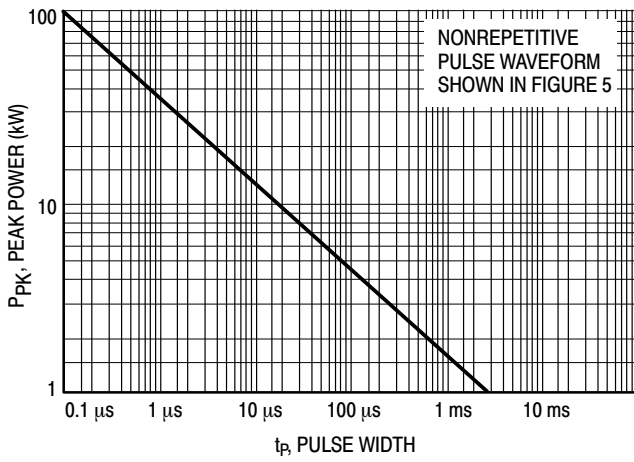
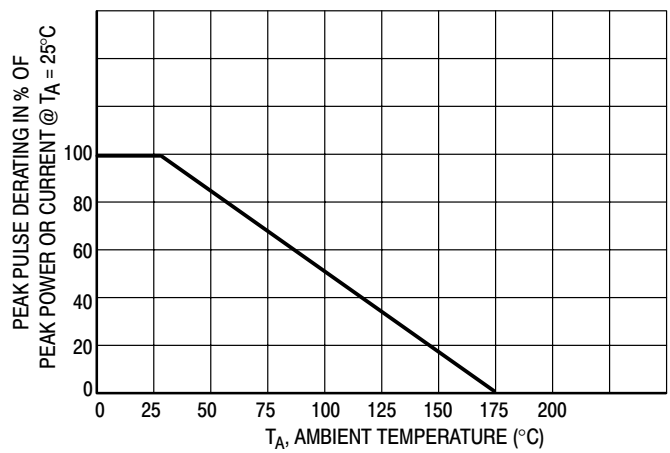
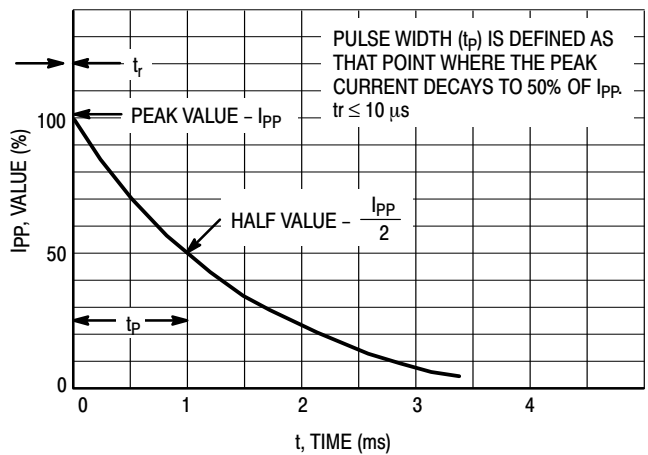
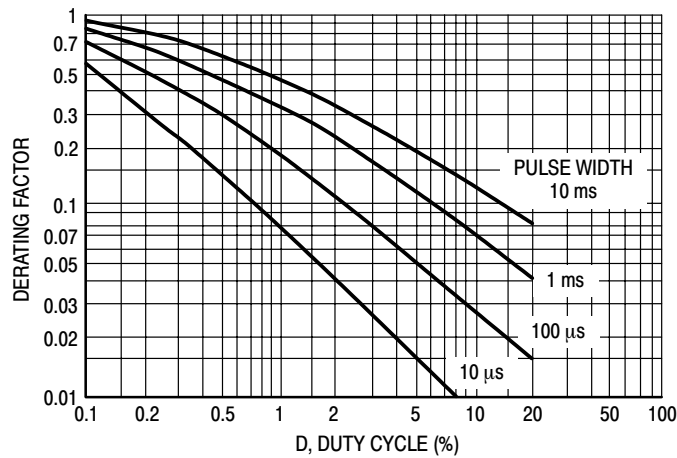

Figure 1. Pulse Rating Curve
Figure 2. Pulse Derating Curve
Figure 5. Pulse Waveform
Figure 7. Typical Derating Factor for Duty Cycle
1. Nonrepetitive current pulse per Figure 5 and derated above  $T_A = 25^\circ\text{C}$  per Figure 2.
7. Surge current waveform per Figure 5 and derate per Figures 1 and 2.
The data of Figure 1 applies for non-repetitive conditions and at a lead temperature of 25°C. If the duty cycle increases, the peak power must be reduced as indicated by the curves of Figure 7. Average power must be derated as the lead or
At first glance the derating curves of Figure 7 appear to be in error as the 10 ms pulse has a higher derating factor than
the 10  $\mu$ s pulse. However, when the derating factor for a given pulse of Figure 7 is multiplied by the peak power value of Figure 1 for the same pulse, the results follow the expected trend.